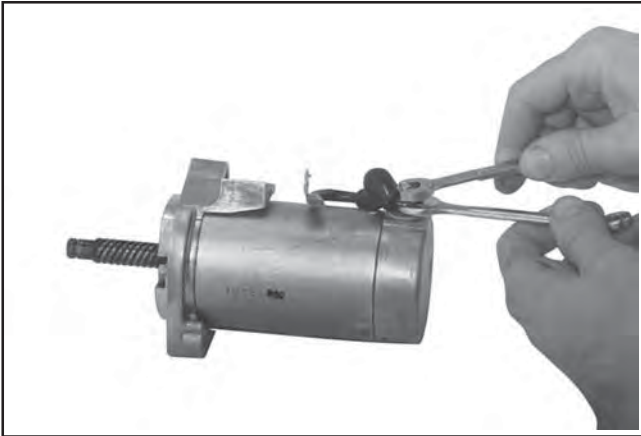

Figure 8-39. Removing Solenoid Lead.
2. Disconnect the solenoid lead from the starter terminal. Hold the lower jam nut from turning with a wrench while loosening the top nut, to prevent damaging internal components. See Figure 8-39. The solenoid may be removed or left in place.